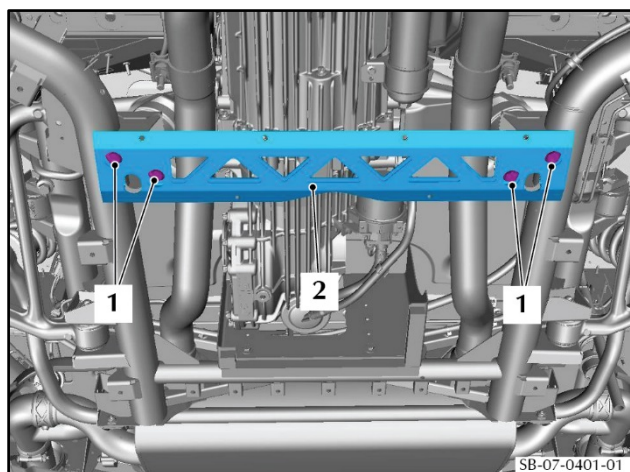

Figure 4
10. Hold the cross brace (2). Remove the four screws (1) that attach the cross brace (2) and remove the cross brace (2) (refer to Figure 4).